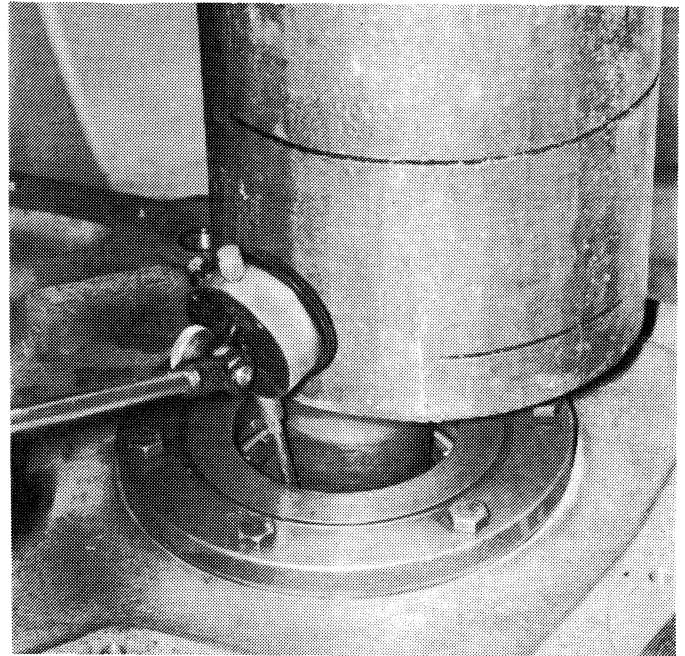

Figure 9-8. Applying Rearward Thrust to Reverse Shaft.
d. Install the estimated shim pack and O-ring (6). Secure the retainer and shims with six hex-head screws (1). Torque the screws 30 lb. ft.
f. Apply 300-500 lb. downward thrust onto the reverse shaft. See Figure 9-8.